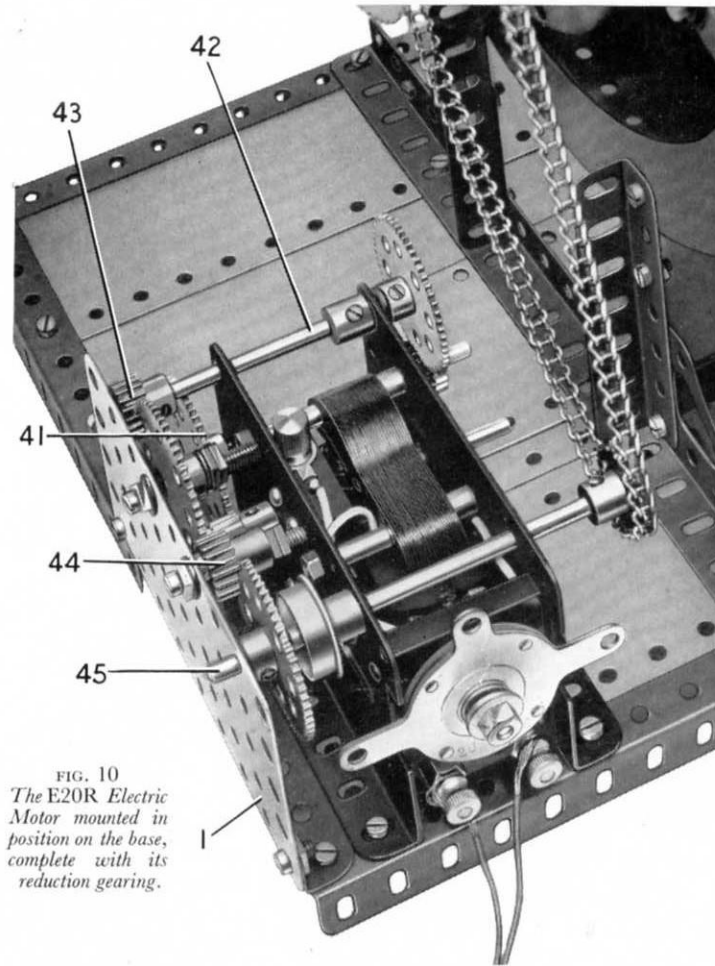

FIG. 10
An E20R Electric Motor is bolted by its flanges to the base (Fig. 10), and a $\frac{7}{16}$ " Pinion on its armature shaft drives a 60-tooth Gear (41) on a Rod mounted in the Motor side-plates. A $\frac{1}{2}$ " Pinion on the same Rod engages a 57-tooth Gear on a Rod (42), which carries also a $\frac{1}{2}$ " Pinion (43). The Rod (42) is held in place by the remaining half of the Dog Clutch left over after the completion of the magneto. Pinion (43) is in mesh with a 57-tooth Gear that is free to turn on a $1\frac{1}{8}$ " Bolt, but is retained on the Bolt by lock-nuts. This Bolt is first fitted with a nut and a Washer, and is then passed through the Flat Plate (1) and is fixed in place by a further nut. The 57-tooth Gear drives